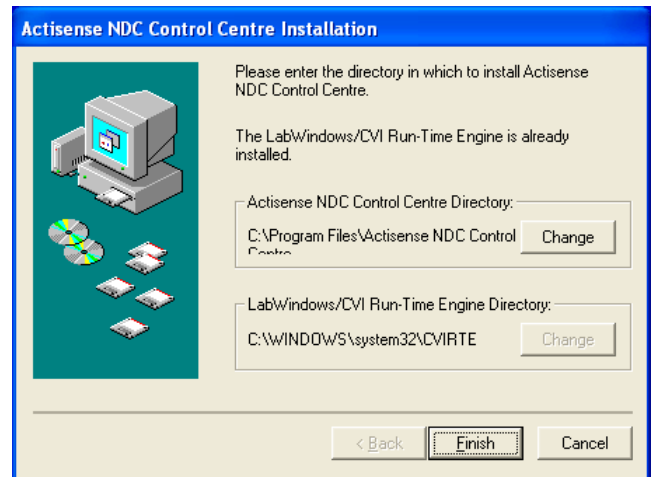

Figure 4 – Install options
4. Double click on the 'setup.exe' program file and follow the on-screen instructions of the standard Windows install program. The install location can be change at this point, however, the default location is normally acceptable (refer to figure 4 and 5).